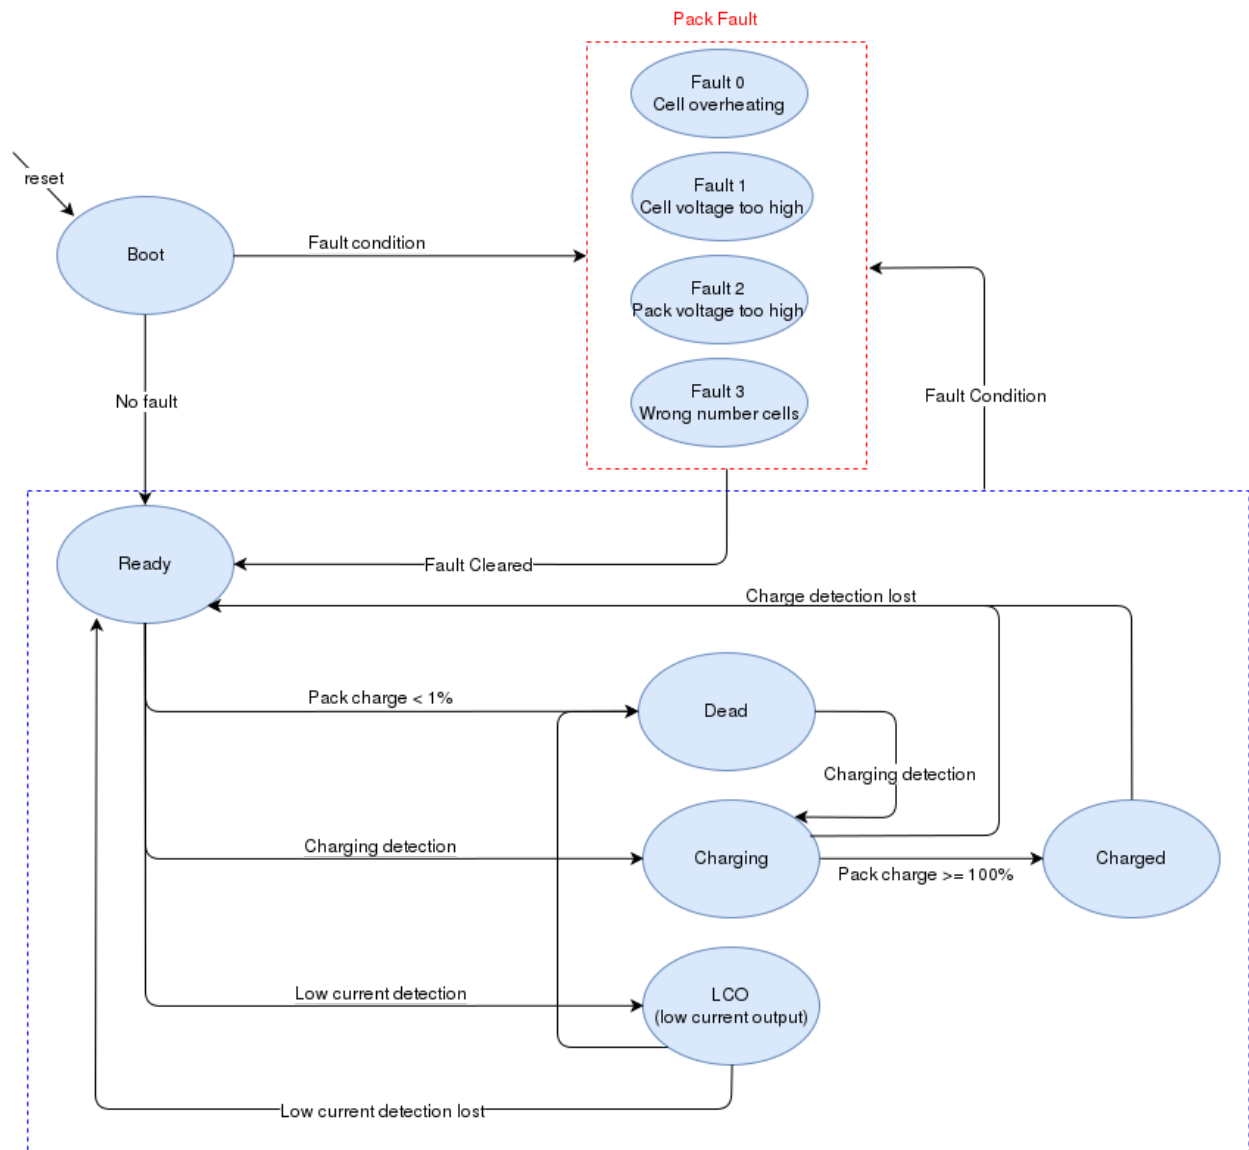

Figure 6. PacMAN State Machine.
- **Pack State:** The PacMAN monitors the state of the pack (charging, dead, fault [0,1,2,3], low current output, ready, etc). The state machine utilized within the PacMAN firmware is shown within Figure 6 below. The 4 types of fault result for the following cases: